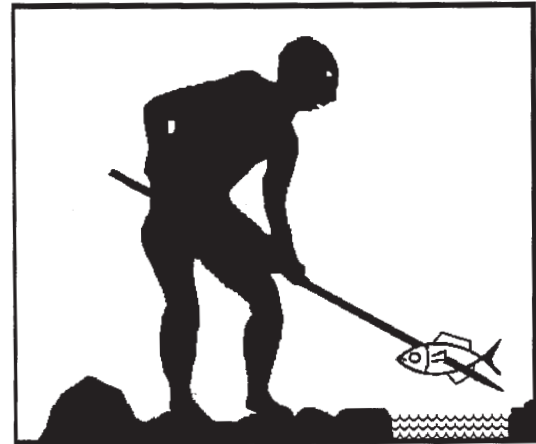

Figure 2
In early times, flowing water caused by tidal movement and changes in river and lake levels were probably used to trap fish behind rudimentary barriers, often made from sticks and stones. It is likely that early humans found that fish catches could be improved by driving fish into these barriers. They would have found that catches from these barriers decreased over time, as fish became accustomed to them, and would have had to move the traps to fresh areas where more fish could be caught. It would have been hard work to construct new traps, either by moving stones from the old trap or finding new ones. Primitive fishers probably tried making barriers from lighter, more readily available material such as tree branches, brush and vines (Figure 2). This led to the fishers inventing lighter, movable traps made from brush and nets made from vines which they could carry with them when they moved to new areas. They may even have tried bigger, more complicated corral-type fish traps in lakes, rivers and coastal waters.
- traps that form barriers to fish movement, including walls or dams, fences, fyke nets, gratings and watched chambers that can be closed by the fisher after the fish enters (Figure 2);